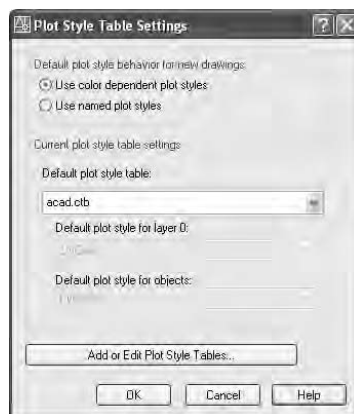

FIGURE 14.23: The Plot Style Table Settings dialog box
1. Choose Tools > Options to open the Options dialog box and click the Plot And Publish tab. Then click the Plot Style Table Settings button that's near the lower-right corner of the dialog box. This opens the Plot Style Table Settings dialog box. In the uppermost area are the two radio buttons that control which type of plot style a drawing will accept, color-dependent or named (see Figure 14.23). New drawings will accept only the type of plot style that is selected here.